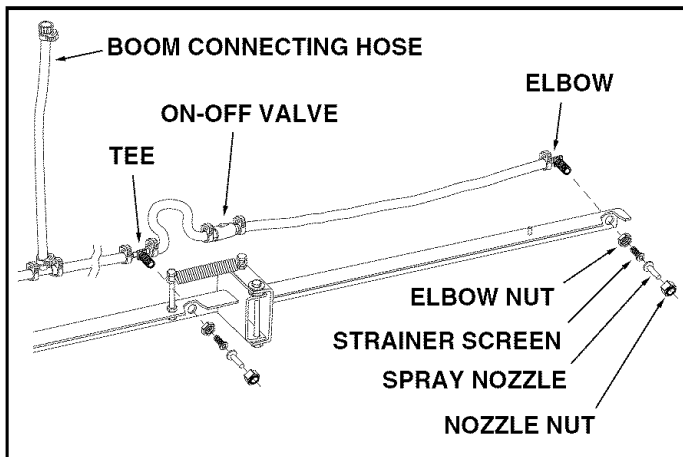

FIGURE 12 (RH) SIDE VIEWED FROM REAR
22. Attach the hose assembly to the **front** of the boom, with the nozzles pointing to the rear. Remove the nozzle nut, nozzle, strainer screen and elbow nut, from the elbow fittings and place the elbow through the hole at the end of the boom arm. Secure it using the plastic elbow nut. Insert the strainer screen and then assemble the spray nozzle and the nozzle nut, keeping the nozzle opening facing down while tightening. See figure 12.
23. Attach the hose assembly tee fittings to the boom using the same procedure as was used for the elbows. See figure 12.